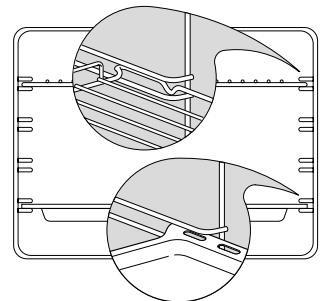

Fig. 10 Correct position of shelves and pan
- Put in the shelves and trays. If you are not using the sliding shelf supports, then slide in the shelves and grill pan as shown in Fig 10. Fit them between the metal runners, with the safety stop notch down and at the back.